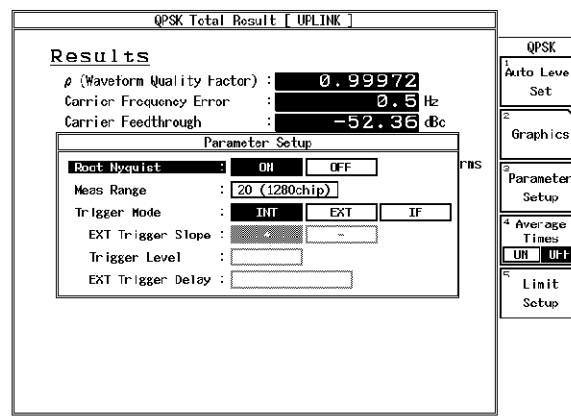

Figure 6-15 Setting of Measurement Parameters for QPSK (RF Input)
5. On the R3267 Series, set measurement parameters as shown in Figure 6-15.